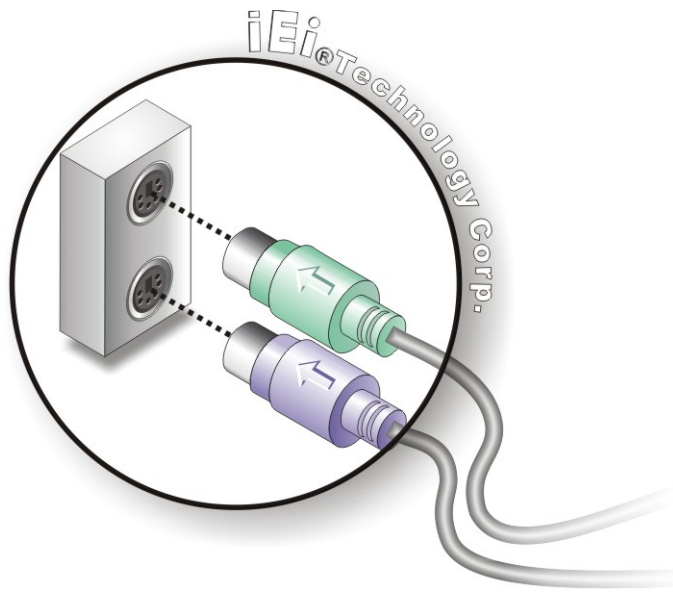

Figure 4-16: PS/2 Keyboard/Mouse Connector
Step 2: **Insert the keyboard/mouse connector.** Insert a PS/2 keyboard or mouse connector into the appropriate PS/2 connector on the external peripheral interface connector. See **Figure 4-16**.